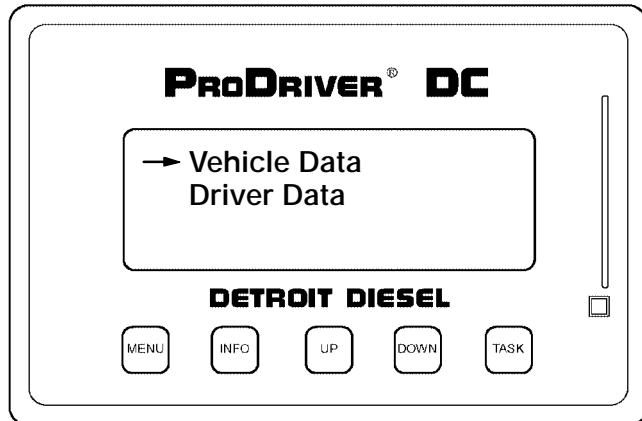

Figure 5-3 Vehicle and Driver Data Screen
- Vehicle Data, **[INFO]** (see Figure 5-3).